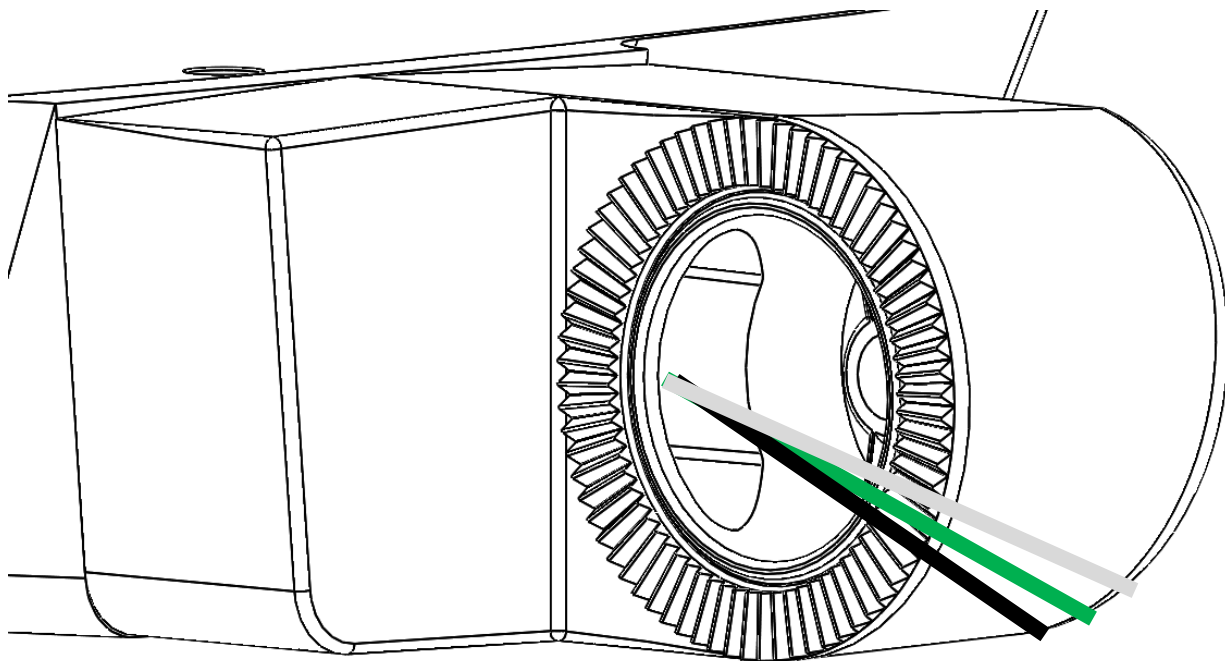

Figure 13 – IS wire routing; Housing portion of the knuckle
**Step 4:** Route luminaire input wires through the housing portion of the knuckle into the wiring chamber of the mounting portion of the knuckle (see figure 13). NOTE: Wire routing should be done before securing the two portions of the knuckle together for ease of wire routing.